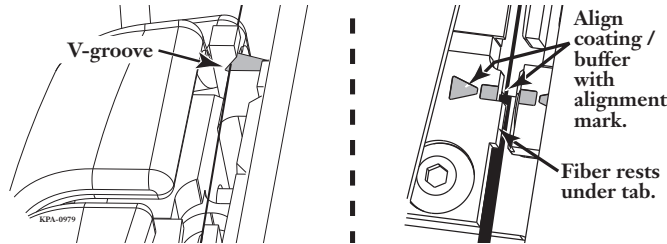

Figure 37 — Place Fiber in the Cleaver
Step 3: Place the fiber in the slot (Figure 37) so the:
- Step 6:** Squeeze Button A, remove the scrap fiber, and place it in the scrap fiber bin (Figure 37).